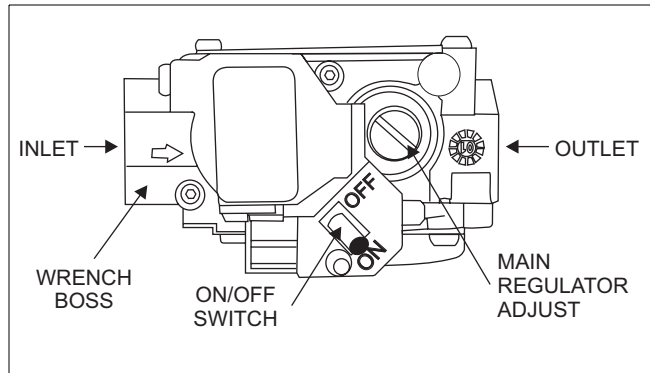

FIGURE 37 : White Rodgers 36G Gas Valve
1. Turn gas off at main gas valve. Remove 1/8" NPT plug from the outlet pressure tap in the main gas valve body and install a proper manometer tube adapter fitting (refer to Figure 37). Connect line from gas valve tap to a manometer.
3. Refer to Figure 37 on page 27, for location of pressure regulator adjustment cap and screw on main gas valve.